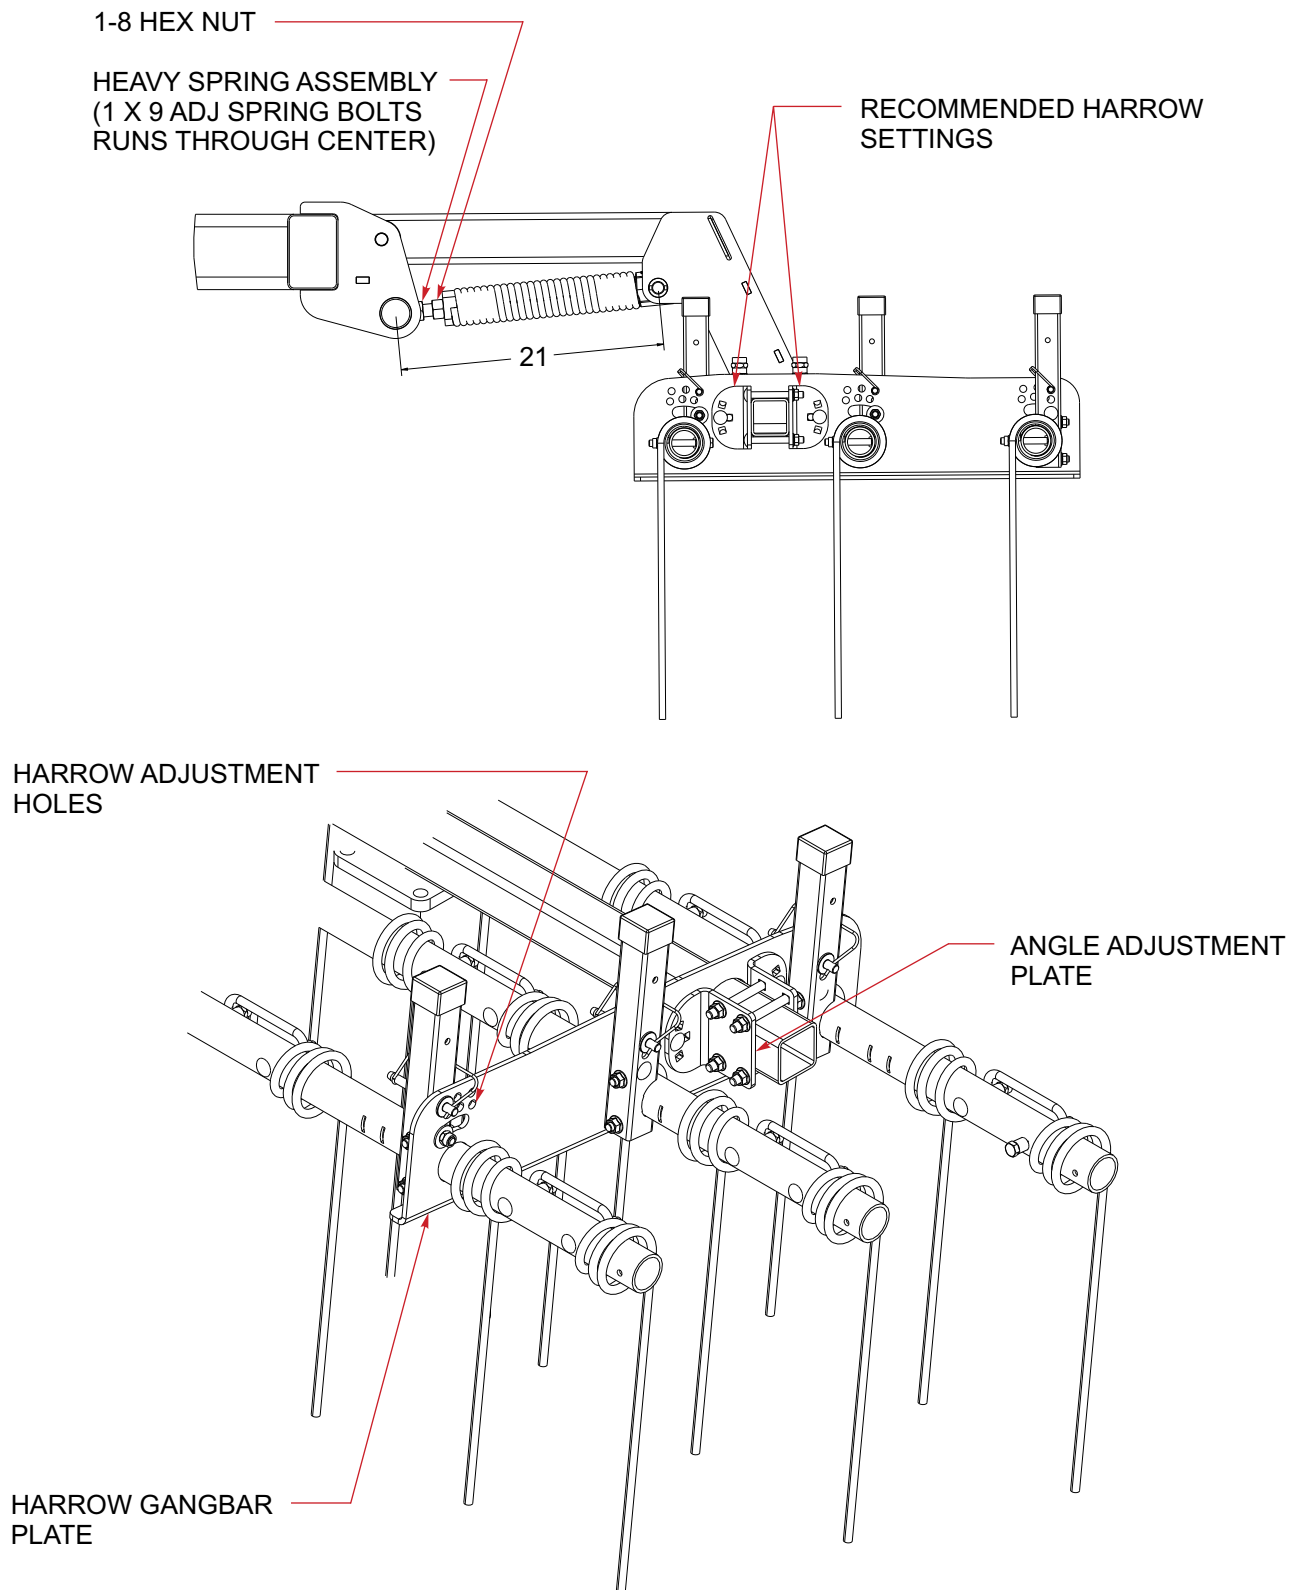

Figure 4-13: Harrow Adjustment and Settings
3. Adjust the harrow gang bar plate (p/n 154993) angle by removing 1/2-13 x 1-1/4 round head square neck screws as shown in **Figure 4-13**. Rotate the harrow section to the desired level position and reinstall the bolts in the appropriate mounting holes to hold the harrow section level.
4. Entire harrow sections may be leveled for height and side-to-side. Sections heights may be leveled for all sections across the back of the implement, or individually for side-to-side levelness. To adjust the section heights **(See Figure 4-13.)** Loosen the locking nuts on the 1 x 9 spring bolt, and then rotate the bolt head to raise or lower the section. Retighten the bolts when finished.
6. For initial harrow settings for the disc, refer to **Figure 4-13**. These are initial settings to get started. Actual field conditions (soil types, residue, moisture, etc.) may require additional adjustment. For best results, adjust one section until the desired finish is obtained. Then set the rest of the harrow sections to match.